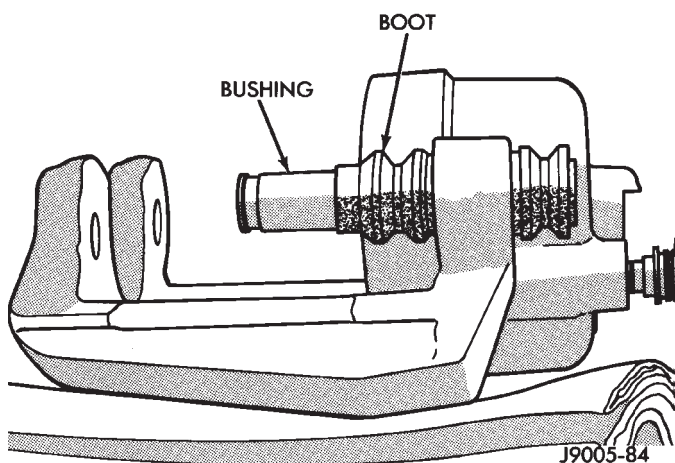

Fig. 50 Bushings And Boots Installation
- (1) Lubricate caliper piston bore, new piston seal and piston with clean brake fluid.
- (2) Lubricate caliper bushings and interior of bushing boots with silicone grease.
- (3) Install bushing boots in caliper, then insert bushing into boot and push bushing into place (Fig. 50).